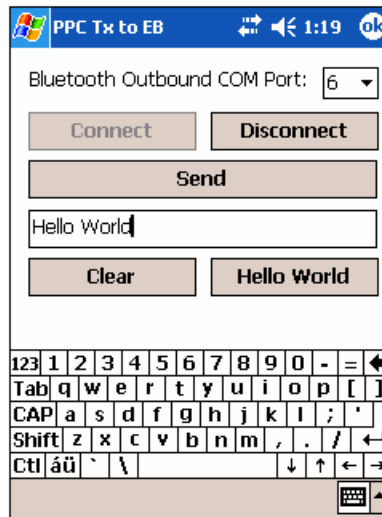

Figure 11: PPCTxToEB Pocket PC Application
12. Run the **PPCTxToEB** application (Figure 11).